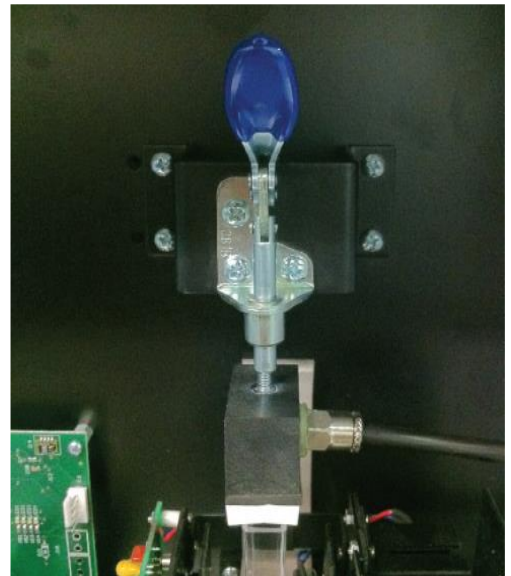

Figure 14.7: Release clamp
3. Open door of monitor and place a paper towel or cloth below flow cell because some water may still be in the cell. Slowly lift the blue lever of the quartz flow cell clamp pictured in Figure 14.7 on the right.